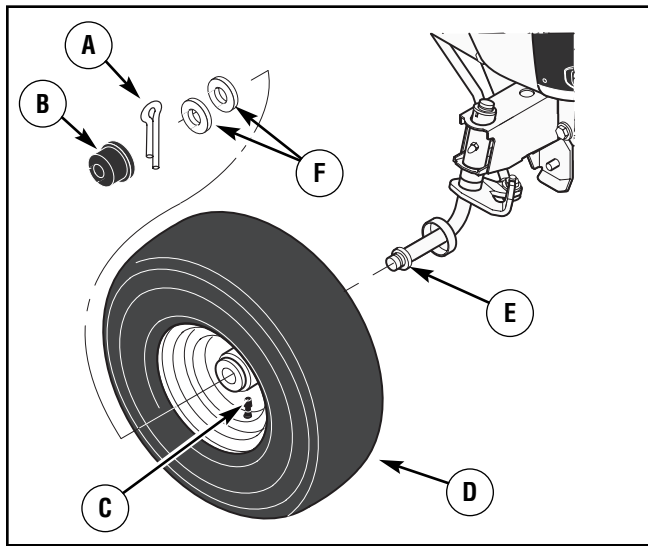

Figure 44: Front wheel assembly
1. Make sure the **valve stem** is to the outside of the tractor. Slide the **front wheel** on the **spindle** (See Figure 44).